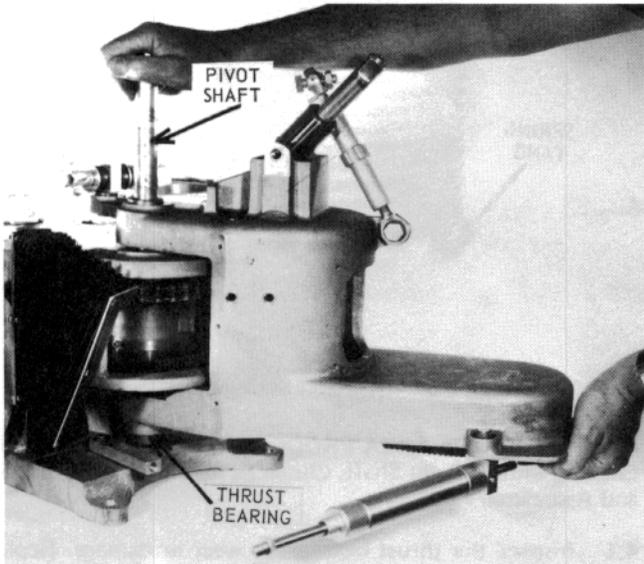

Figure 51 – Pivot Shaft Removal
2.1.11 Pull the pivot shaft up to separate the two castings (see Figure 51). Do not loosen the pivot shaft cam screw at the top of the pivot shaft. It may be necessary to drive the shaft out from the bottom if it cannot be pulled free from the top. When the pivot shaft is withdrawn, do not lose or damage the pivot shaft thrust bearing which supports the mainshaft housing. (see Figure 51 and 52).